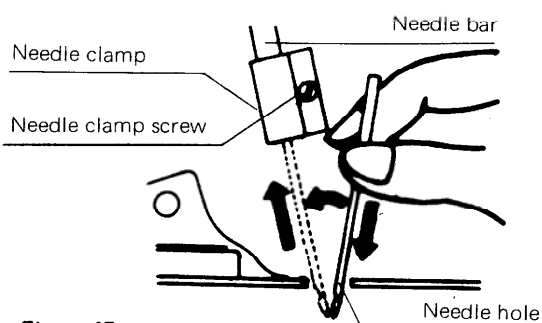
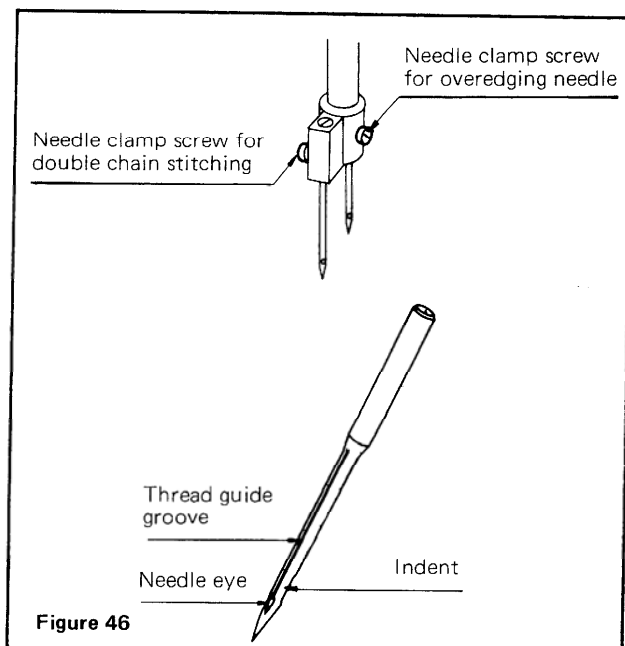

Figure 45
Figure 46
- (1) For needle installation, first turn the machine pulley so as to raise the needle bar up as far as it will go.
- (2) Next, loosen the needle clamp screw (Figure 45), insert the tip of the needle into the needle hole (Figure 45) on the presser foot, and insert the needle into the needle hole of the needle clamp as far as it will go.
- (3) Firmly tighten the needle clamp screw.
*For the direction of inserting the needle, it is requested that the needle be set so that the thread guide groove is facing the front when facing the machine as shown in Figure 46.